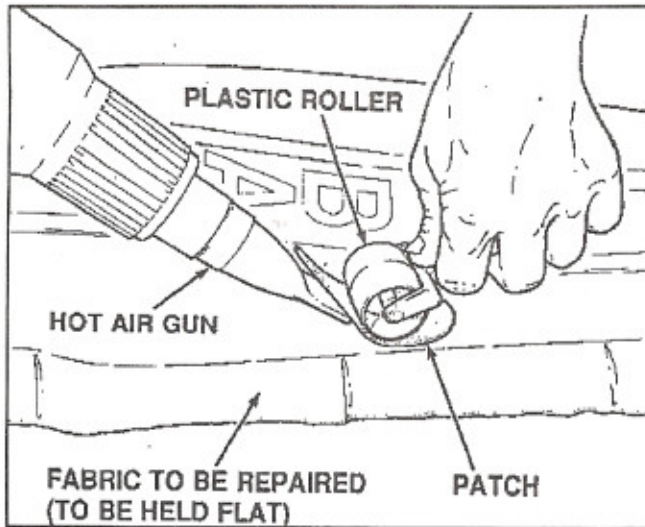

Fig. 37: Patching with a hot air gun.
4. Starting from the center of the patch held down by the roller as in Fig. 37 below, concentrate the heat flow equally to patch and fabric. Start applying a light pressure with the roller when the fabric starts melting. DO NOT OVERHEAT.